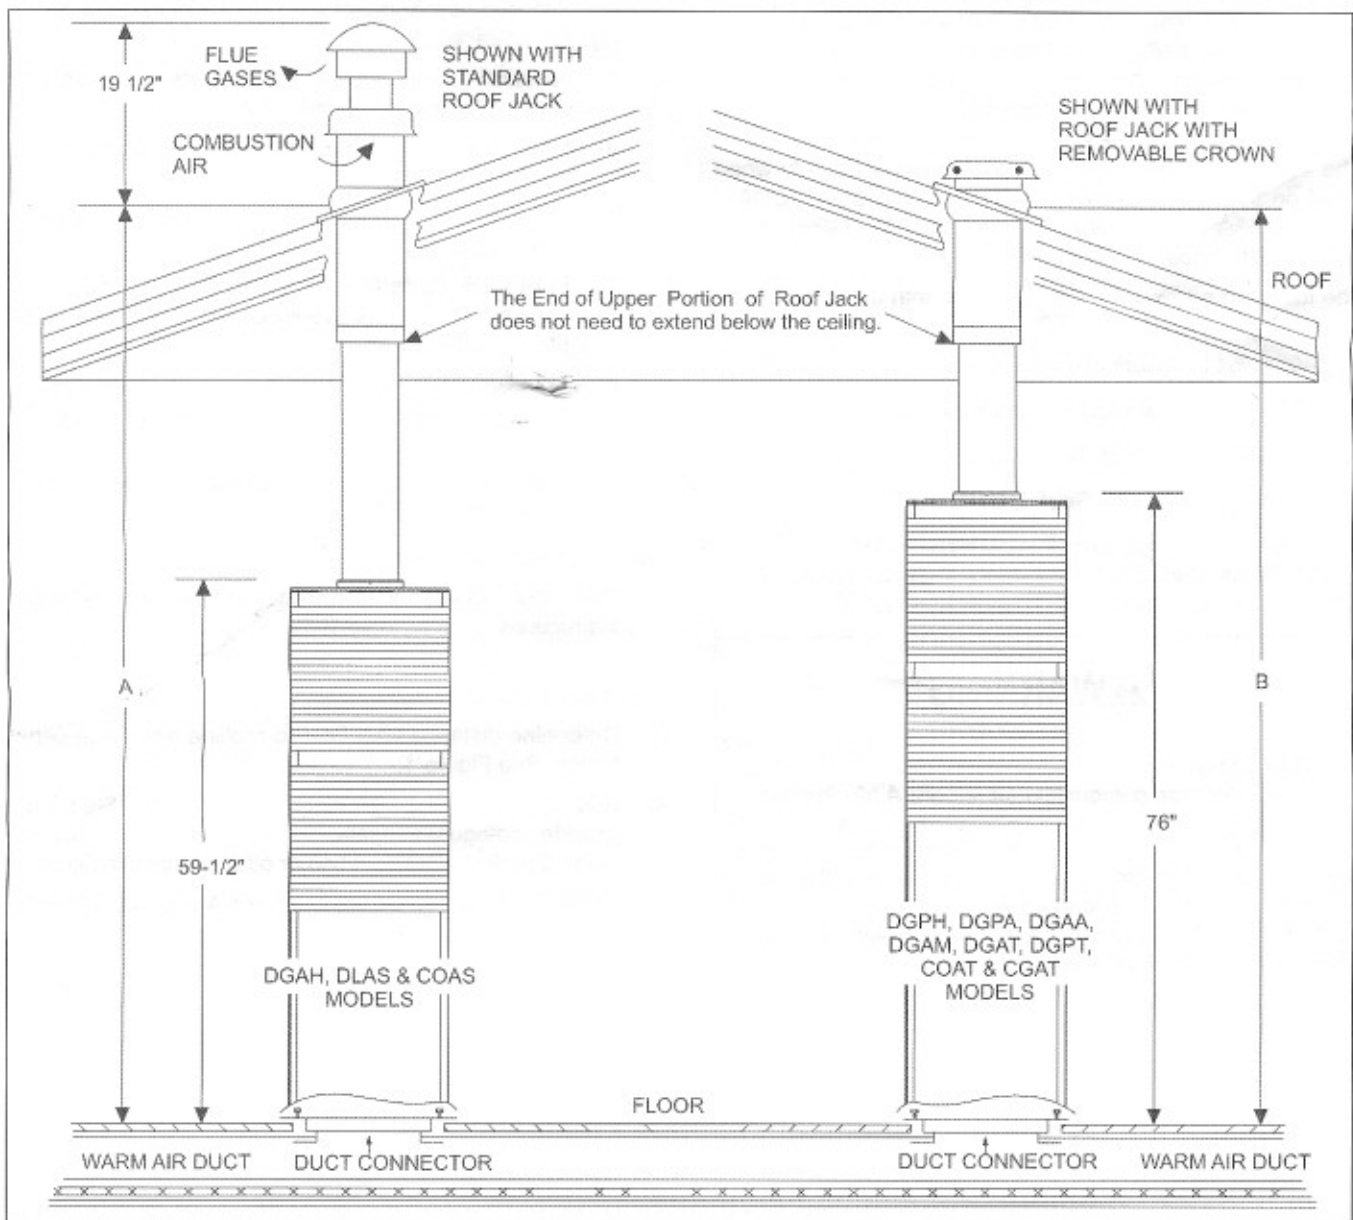

FIGURE 1 - ROOF JACK
3. Determine distance from floor to roofline along flue centerline. See Figure 1.